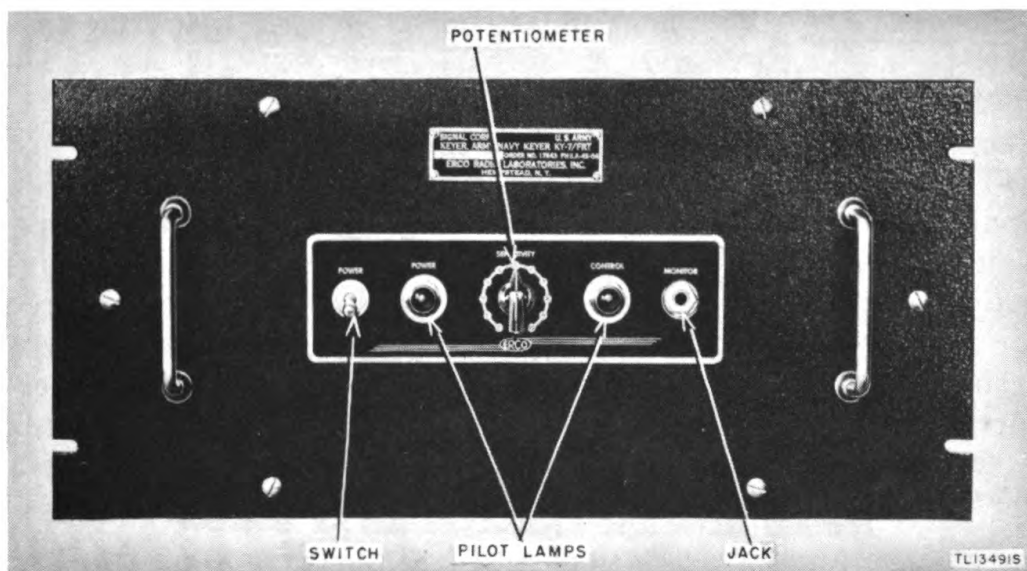

Figure 8. Keyer KY-7/FRT, panel, maintenance.
30. ITEM 1, FRONT PANEL (fig. 8).